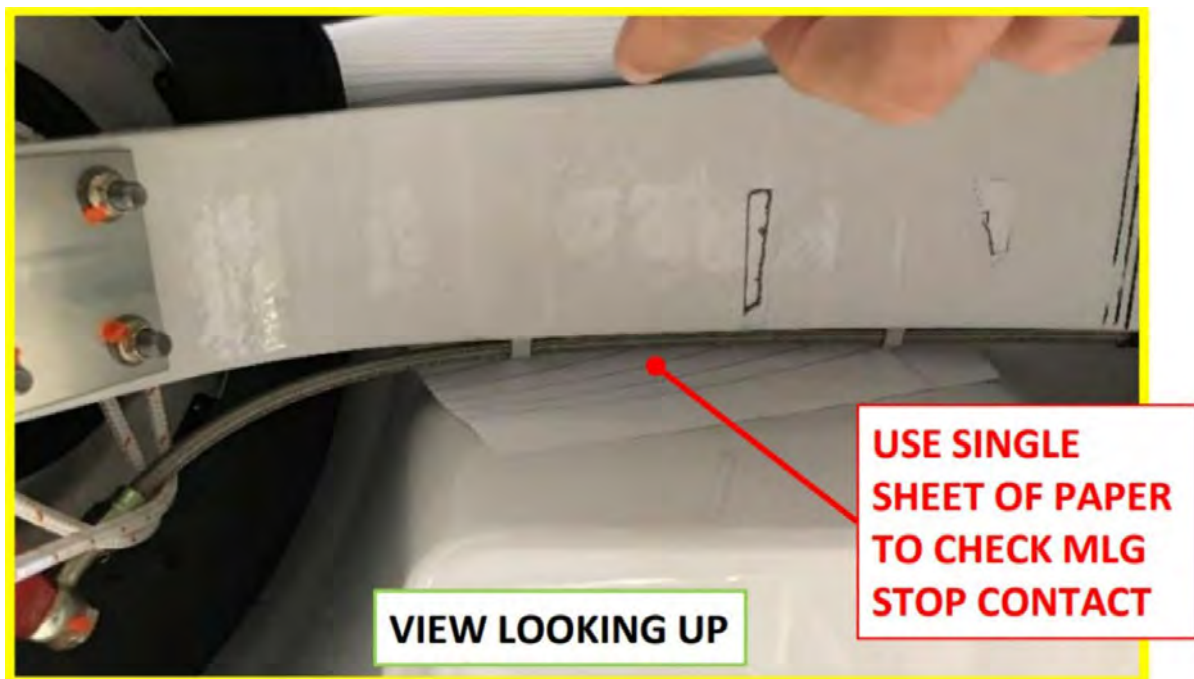

FIGURE 15-32
4. Adjust until a single sheet of paper slides with slight drag between MLG strut and stop. Both bumpers may touch if contact is made simultaneously. (See Figure 15-32.)